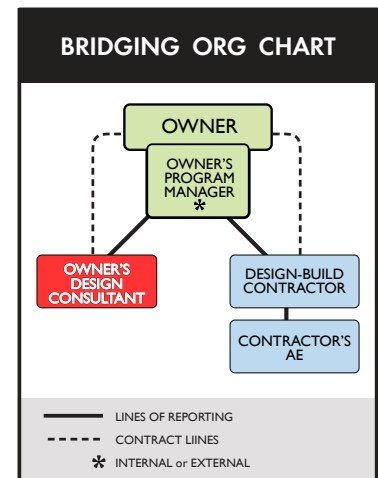

Figure 1
**Step 1:** A designer or design team is selected as the Owner's Design Consultant ("ODC"), sometimes referred to as the "Bridging Architect" (Figure 1). The ODC goes through Schematic Design in the same way an architect would do in traditional design services, with reviews and approvals by the Owner. Typically, the project budget and schedule would also be reconfirmed at this point (Figure 2).